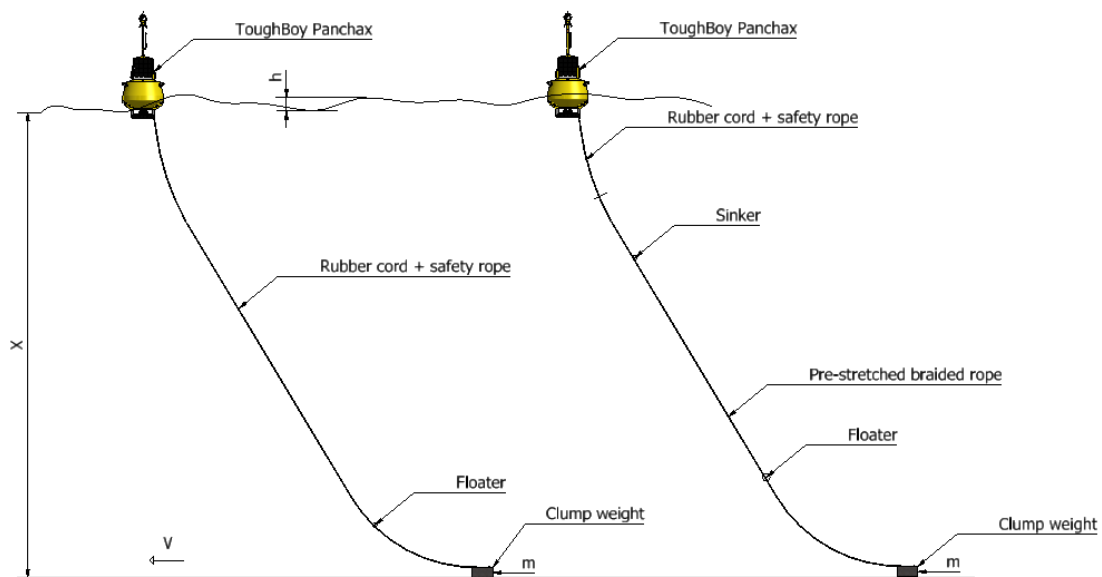

Figure 8 Mooring systems
You can determine the exact setup of the mooring system, which can be one of the systems pictured in Figure 8 below, depending on various parameters of the water, such as the water depth (X), current velocity (V) and wave height (h).